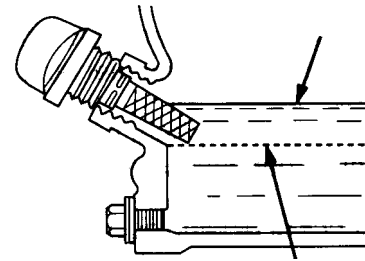

Figure 10. Engine Oil Dipstick (Oil Level)
4. If the oil level is low (Figure 10), fill to the edge of the oil filler hole with the recommended oil type (Table 7). Maximum oil capacity is 1.16 qts. (1.09 liters)